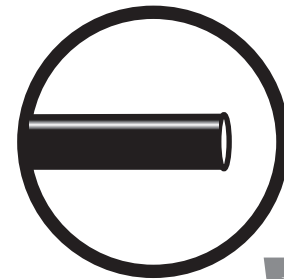

fig. 45
- a. Check the air line connection by deflating the spring and removing the line by pulling the collar against the fitting and pulling firmly on the air line. Trim 1" off the end of the air line. Be sure the cut is clean and square (see fig. 45). Reinsert the air line into the push-to-connect fitting.
2. If the preceding steps have not resolved the problem, call Air Lift customer service at (800) 248-0892.